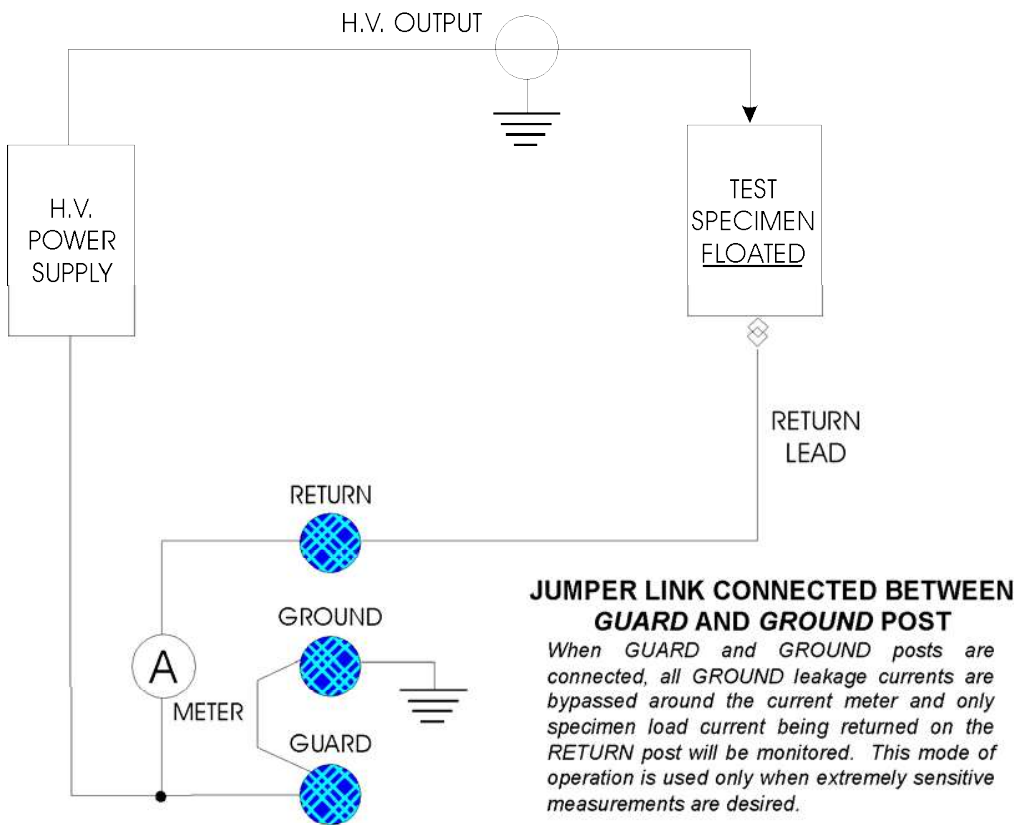
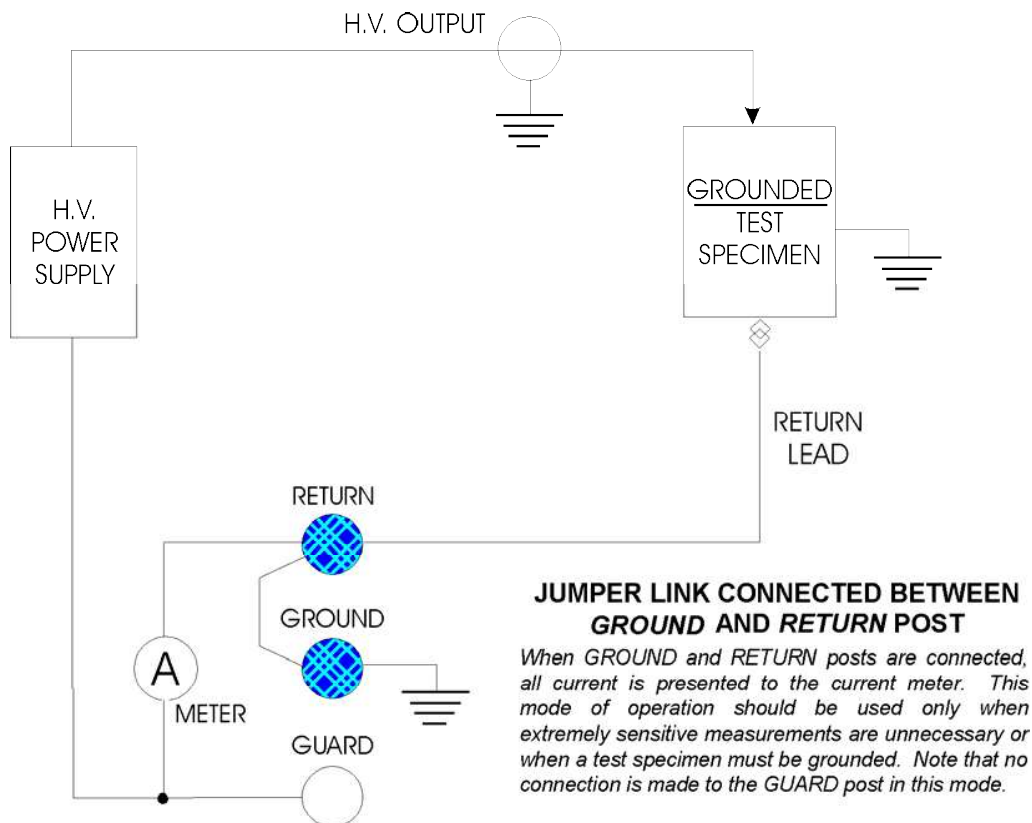

Figure 3 Jumper Link Connected Between Ground and Guard Post
Figure 4 Jumper Link Connected Between Ground and Return Post
There are three connection posts on the front panel labeled **GUARD**, **GROUND**, and **RTN**. **GUARD** or **RTN** must *always* be connected to **GROUND** by a jumper when testing. Figure 3 and Figure 4 illustrate these connections.
5. Connect the insulated return leads supplied with the unit as illustrated in Figure 3 and Figure 4.